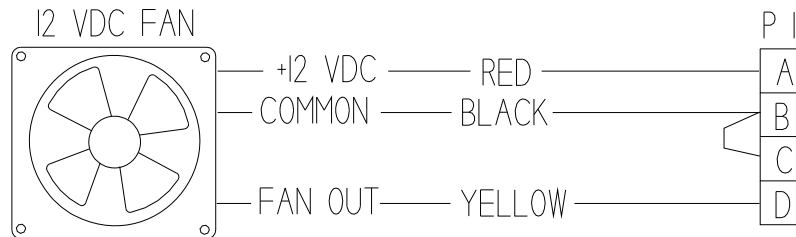

Figure 4-1 Internal Fan Wiring Diagram
- 2.4 Connect DC and sensor cables and route them to DC power source and translator or data logger, respectively. Refer to Figure 4-1 for power wiring connections.